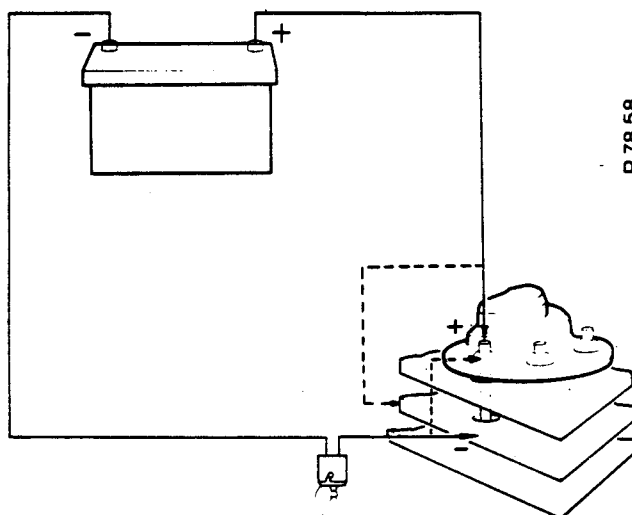

Figure H24
1. Connect one of the nine diodes in series with a 1.5 watt test lamp and 12volt battery. See Figure H24.